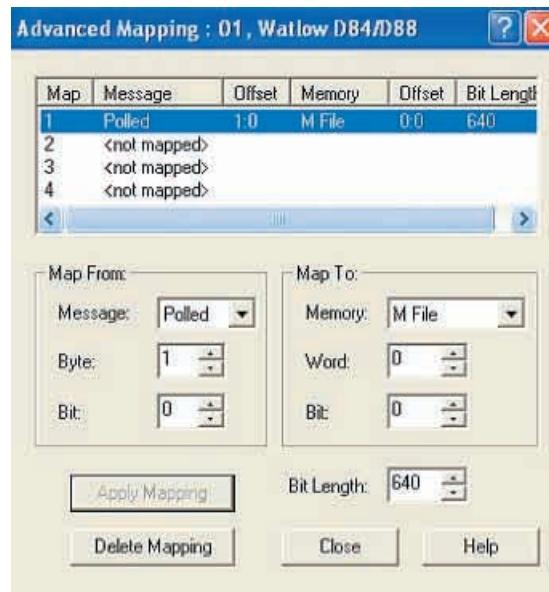

Figure 3.7 Advanced Mapping Dialog Box
2. Click the *Advanced* button to open the *Advanced Mapping* dialog box. See Figure 3.7 on page 53.